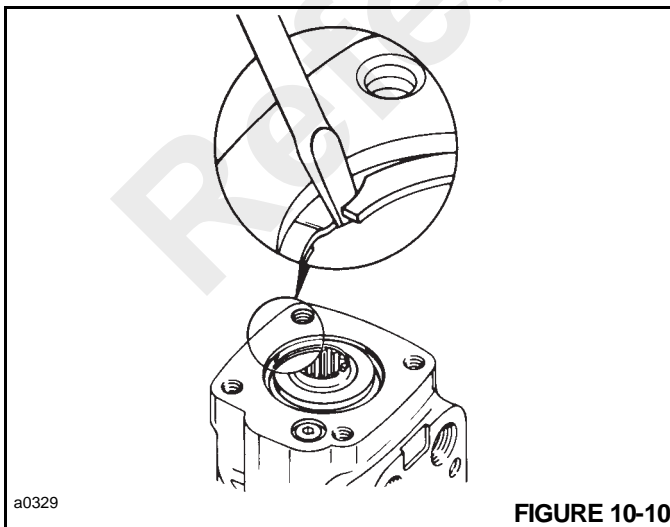

FIGURE 10-10
3. Remove the gerotor (16). Remove seal (13) from gerotor (16). Remove drive spacer(s) (17).
4. Remove drive (15). Remove spacer plate (14). Remove seal (13) from housing (8).
5. Remove housing (8) from the vise. Place it on a clean soft cloth to protect the surface finish. Use a thin bladed screwdriver (Figure 10-10) to pry retaining ring (2, Figure 10-8) from housing (8).